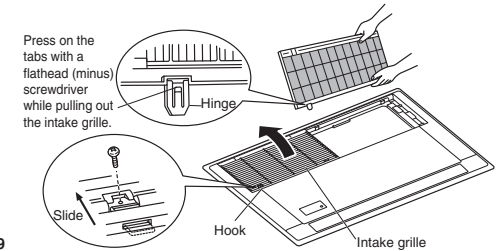

Fig. 7-1
- Remove the 2 screws that fasten each of the 2 grilles in place. (Fig. 7-1)
- Slide the intake grille hooks (2 locations) in the direction of the arrow to open the intake grille. (Fig. 7-1)
- When the intake grille is open, use a flathead (minus) screwdriver to press on the rear hinge tabs (2 locations), then remove the intake grille. (Fig. 7-1)